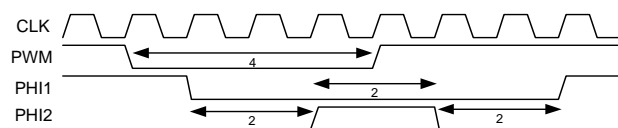

**Figure 17-8. Basic Dead Band Timing**
**Normal Operation.** Figure 17-8 shows typical dead band timing. The incoming reference edge can occur up to one 24 MHz system clock before the edge of the block clock. On the edge of the block clock, the currently asserted output is negated and the dead band counter is enabled. After Period + 1 clocks, the phase associated with the current state of the PWM reference is asserted (Reference High = Phase 1, Reference Low = Phase 2). The minimum dead time occurs with a period value of 00h, and that dead time is one clock cycle.